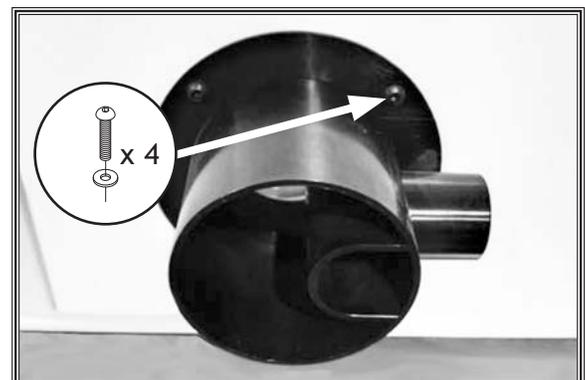

Figure 35. Dust port installed.
28. Attach dust port to cabinet using (4) M6-1 x 12 button head cap screws and (4) 6mm flat washers, as shown in Figure 35.